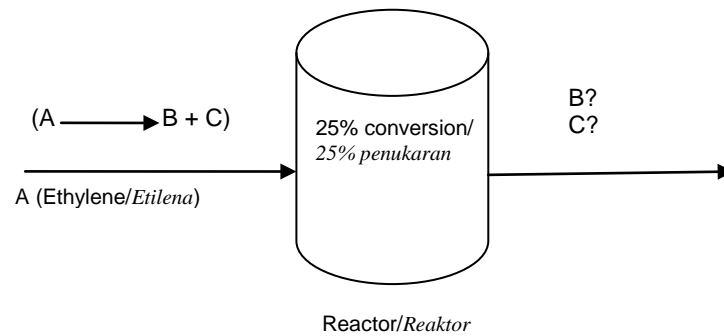

Figure 3: Decomposition reaction of ethylene
- [a] Based on Figure 3 above, if the total flow rate of the effluent leaving the reactor is 125 kmol/h, what will be the reactant (A) flow rate and the composition of the product stream from the reactor?